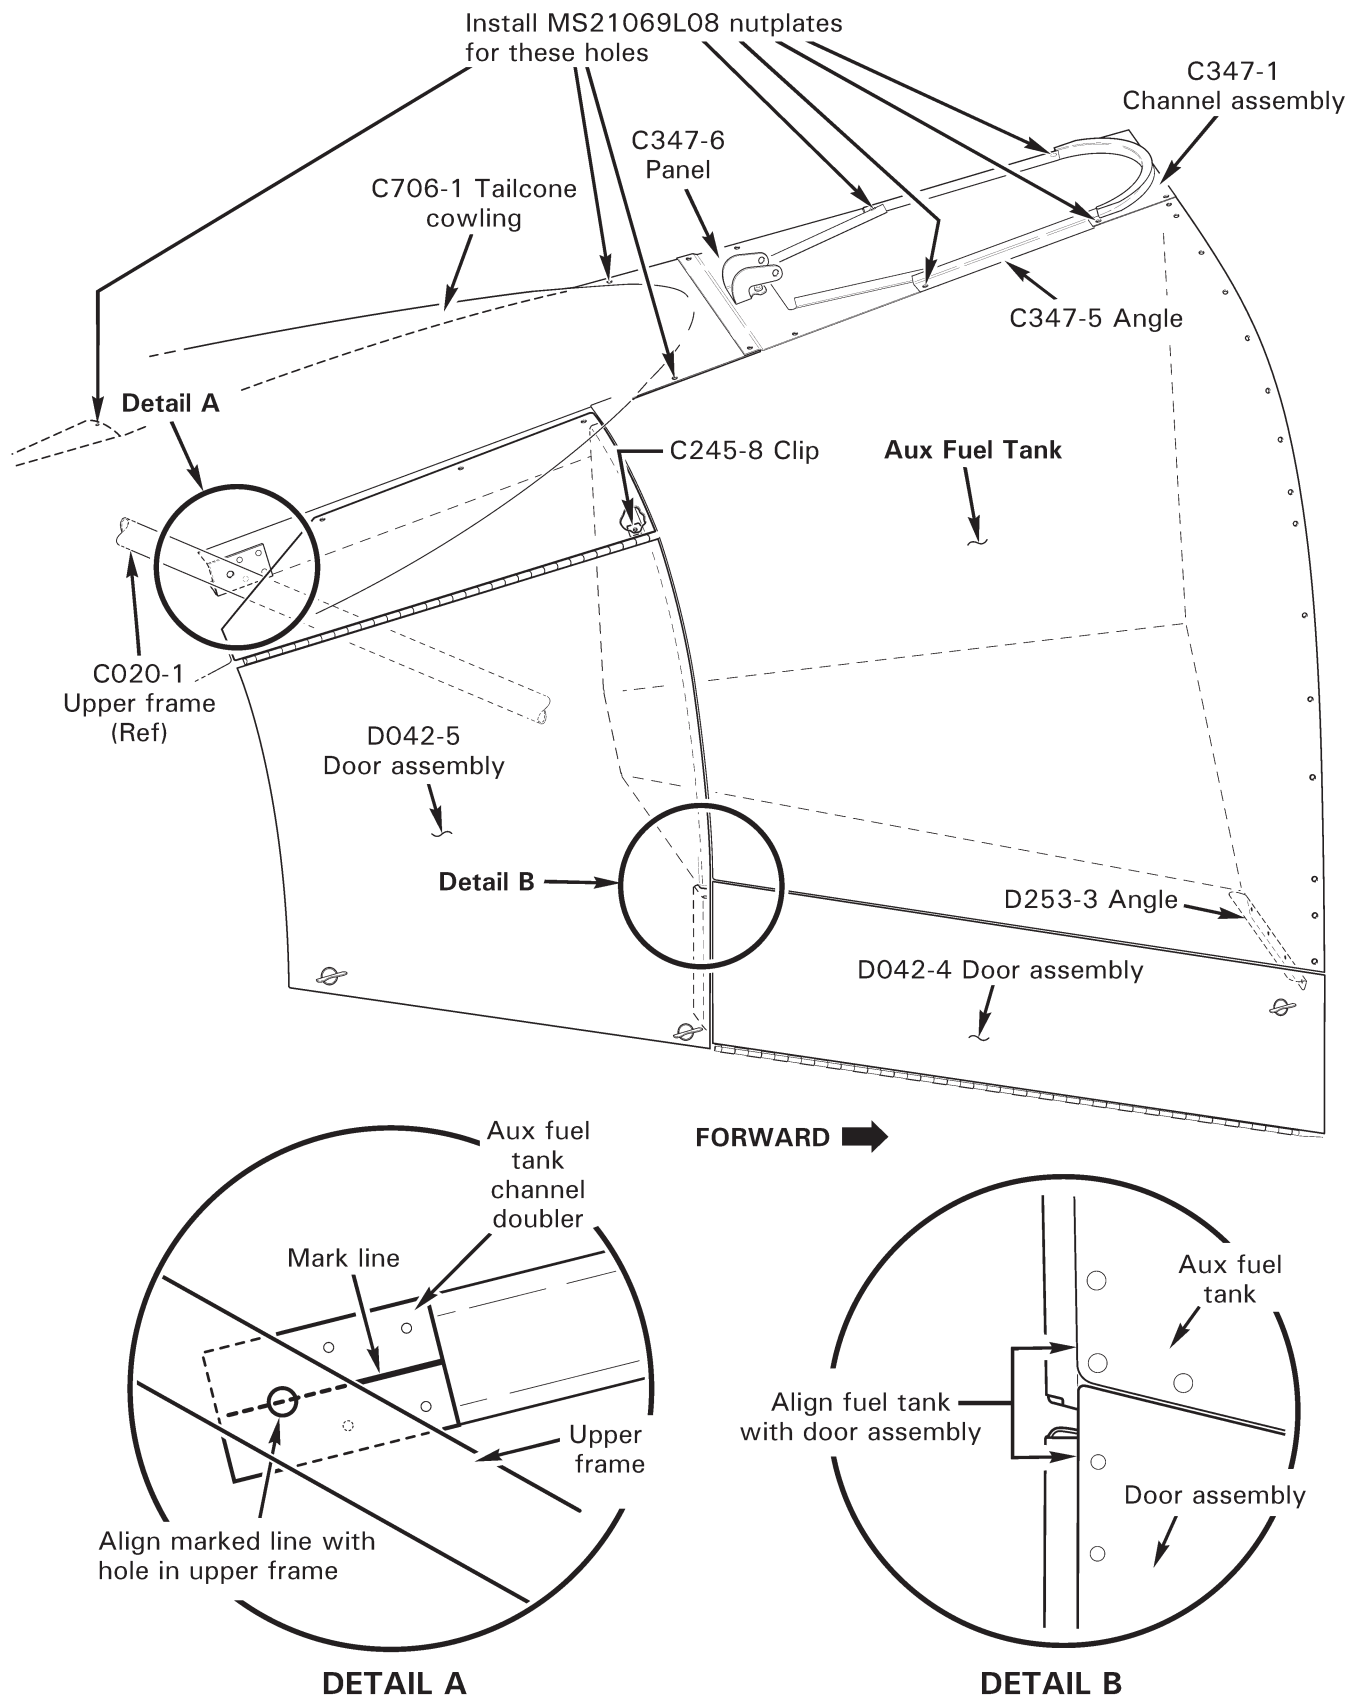

FIGURE 7
32. Match-drill 0.170-inch holes in tank aft vertical panel through (3) holes in intermediate bulkhead. Match-drill 0.250-inch holes in panel through upper frame tab holes; temporarily install bolts.
34. Refer to Figure 7, Detail A. Mark horizontal centerline of new D043-5 aux fuel tank channel doubler.
35. Position aux fuel tank in helicopter. Align marked line with center of upper frame attachment hole as shown in Figure 7, Detail A; align fuel tank exterior skin aft edge with aft edge of latched D042-4 door assembly per Detail B. Secure tank position by clamping channel to frame at attachment hole.
39. Transfer longitudinal lines and recorded distances from exterior skin to tank forward edge, and lay out (3) drill marks. Using a drill stop, drill 0.170-inch holes through tank skin.
41. Refer to Figure 7. Open D042-4 door. Using a drill stop, match-drill 0.170-inch holes in C259-2 bulkhead panel through (4) holes in D253-3 angle. Close and latch door.
42. Install D042-5 door assembly and (2) aft screws securing door to intermediate bulkhead, and latch door. Adjust door position for no more than 0.050-inch gap between door forward edge and tank skin aft edge; simultaneously adjust door vertically to match fuel tank contour. Lay out hole location on C245-8 clip and verify drill hole on clip will have minimum 0.12-inch edge distance. Match-drill 0.170-inch hole in clip through door; install and secure screw.
43. Match-drill 0.170-inch holes in tank channel through (3) holes in D042-5 door assembly.
48. Install (7) MS21069L08 nutplates on main and aux tank flanges as noted in Figure 7.